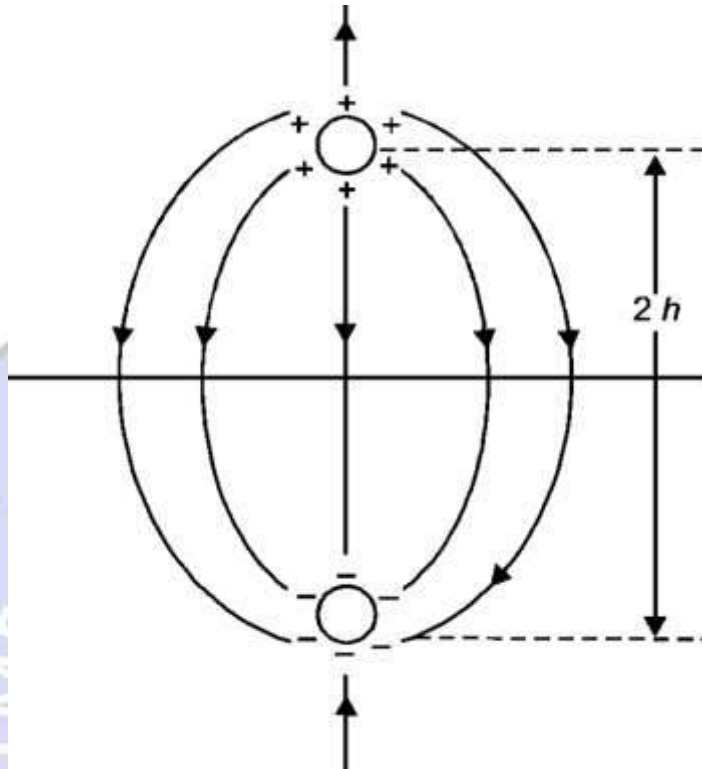

Fig. 26:
- Figure 26 shows that the earth is replaced by image conductor, lies directly below the original conductor.